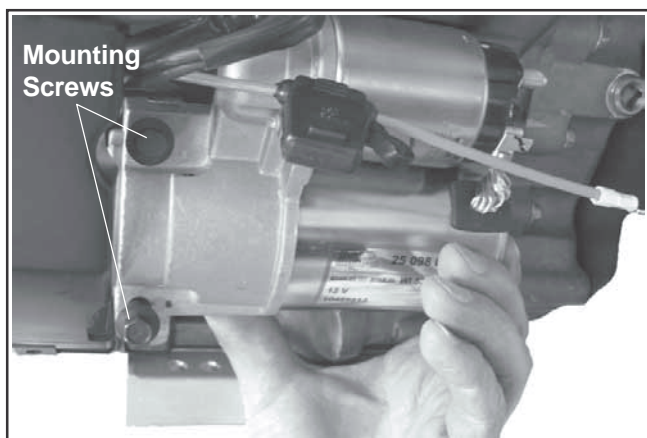

Figure 10-88 Installing Electric Starter.
1. Install the electric starter motor using the two hex flange screws. See Figure 10-88.